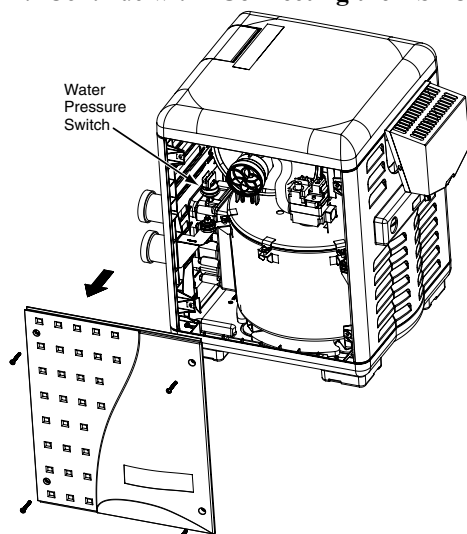

Figure 33.
1. Remove the four corner wing nuts that secure the top panel. Lift the top panel upward to remove the top panel. Note: If needed, remove the wires from the control board if the top is removed completely. **See Figure 33.**
- Secure the panel with the two (2) retaining screws. Close the front door and secure with the latch. See Figure 33 on page 37.